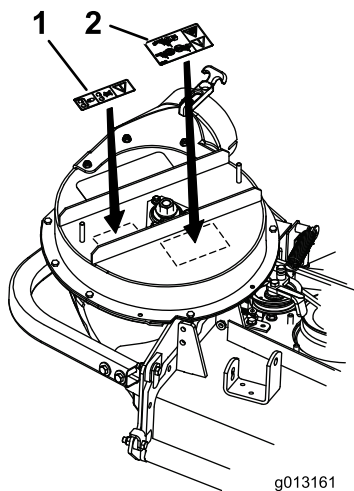

Figure 1
2. Clean the area where the decals will go (Figure 1).
3. Install the decals as shown in Figure 1.